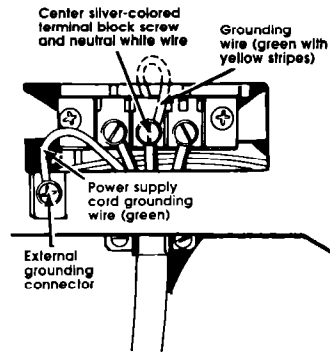

Figure 6
6. Connect the neutral (white) of the power supply cord or cable to the center, silver-colored terminal screw of the terminal block. Connect the other wires to the outer terminals. Tighten screws firmly. See Figure 6. For plain-end wires, see "Direct wiring connection," Panel F.